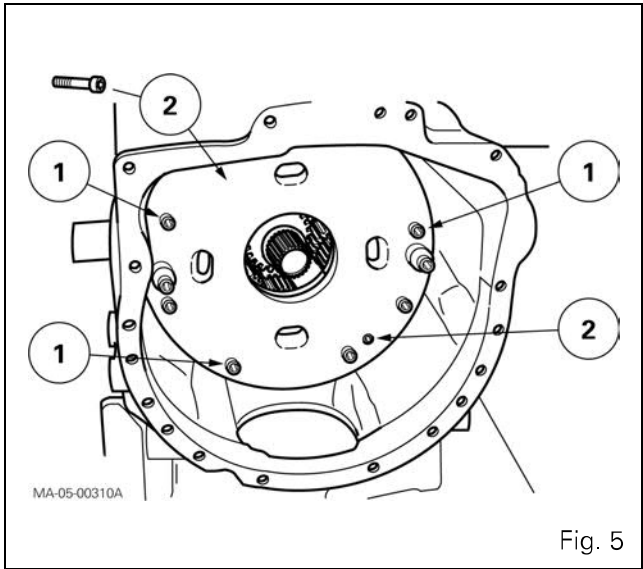

Fig. 5
- The sling hides two diametrically opposed screws (1) on the input unit (Fig. 5). Before fitting the tool on the unit, remove these screws.
10. Remove the remaining screws (1) securing the unit to the gearbox (Fig. 5) without touching screws (2) (8 mm Allen key) (Fig. 5).
23. On the input unit, tighten screws (1) (Fig. 5) to 40 - 56 Nm.